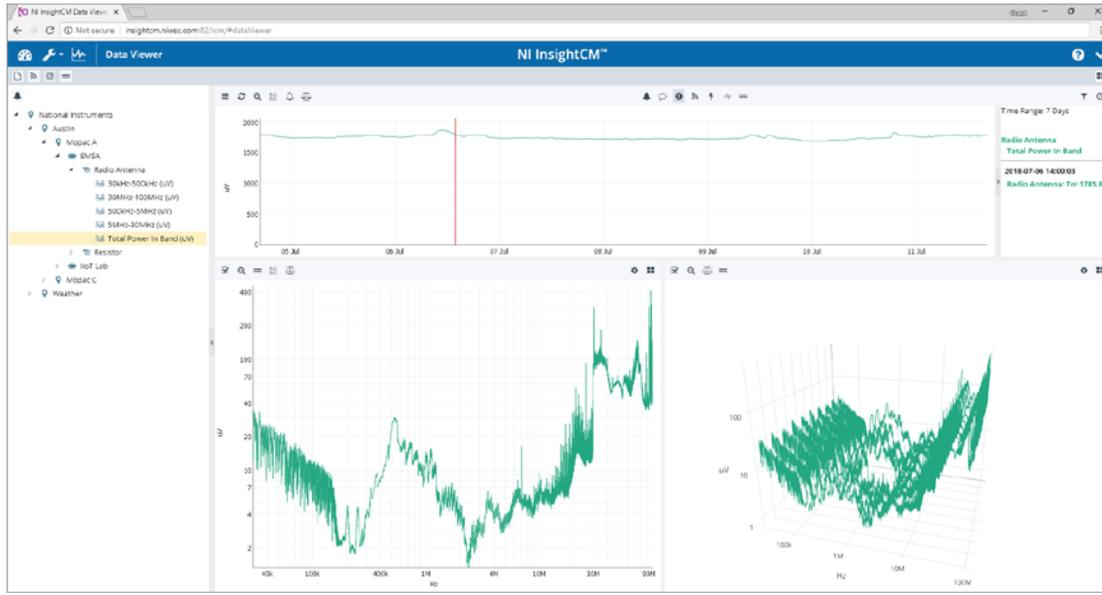

Figure 6. The EMSA layout shows total power in a band trend plot with spectrum and waterfall graphs.
- **Electromagnetic Signature Analysis (EMSA)**—Maintenance engineers on-site often hear arcing and corona phenomena as “crackling bacon.” NI monitoring devices connect to radio frequency current transformers (RFCTs) to measure and alarm on arcing, coronas, gap discharges, noise, and sparking. This data is available in the same InsightCM environment from anywhere with network access. (See Figure 6.)